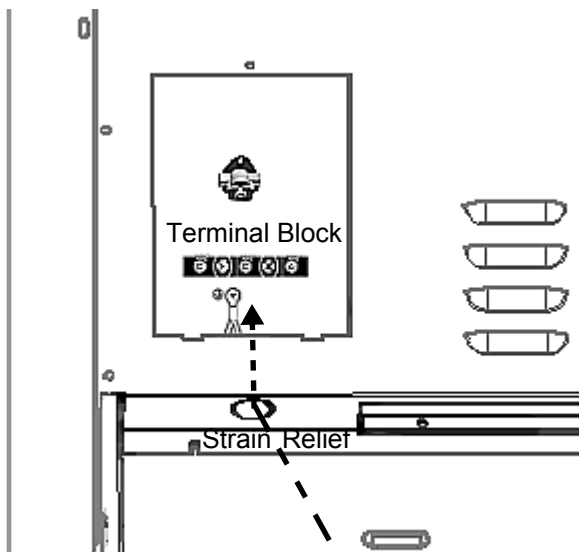

Figure 16: Strain Relief Location
Mount a strain relief (not provided) into the 1" (25.4mm) diameter hole located below the terminal block (see *Figure 16*). Wiring for the unit is to be brought into the terminal block through the conduit and through the strain relief. The ends of the wiring must have 1/4" faston closed-loop lugs attached, preferably soldered in place. Make the connections to the terminal block provided (see *Figure 15*).
2. Mount strain relief (not provided with range) into the 1" (25.4mm) diameter hole in the back panel located below the terminal block (see *Figure 16*). Route wires up through strain relief.